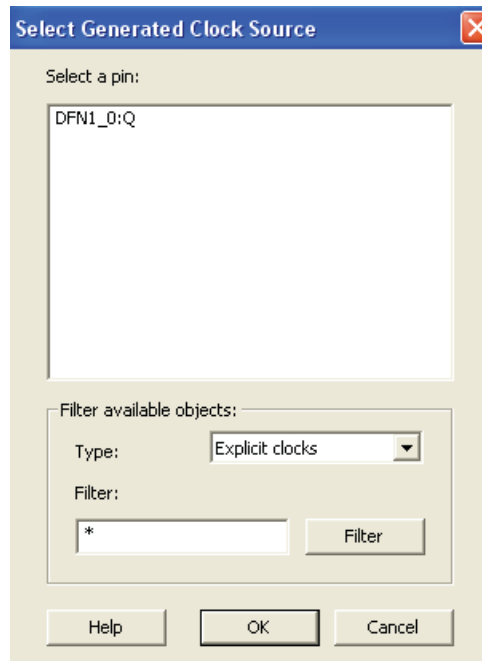

Figure 56 • Select Generated Clock Source Dialog Box
3. Browse to select a **Clock Pin**. The Select Generated Clock Source dialog box displays with the list of available generated clock source pins, as shown in Figure 56.